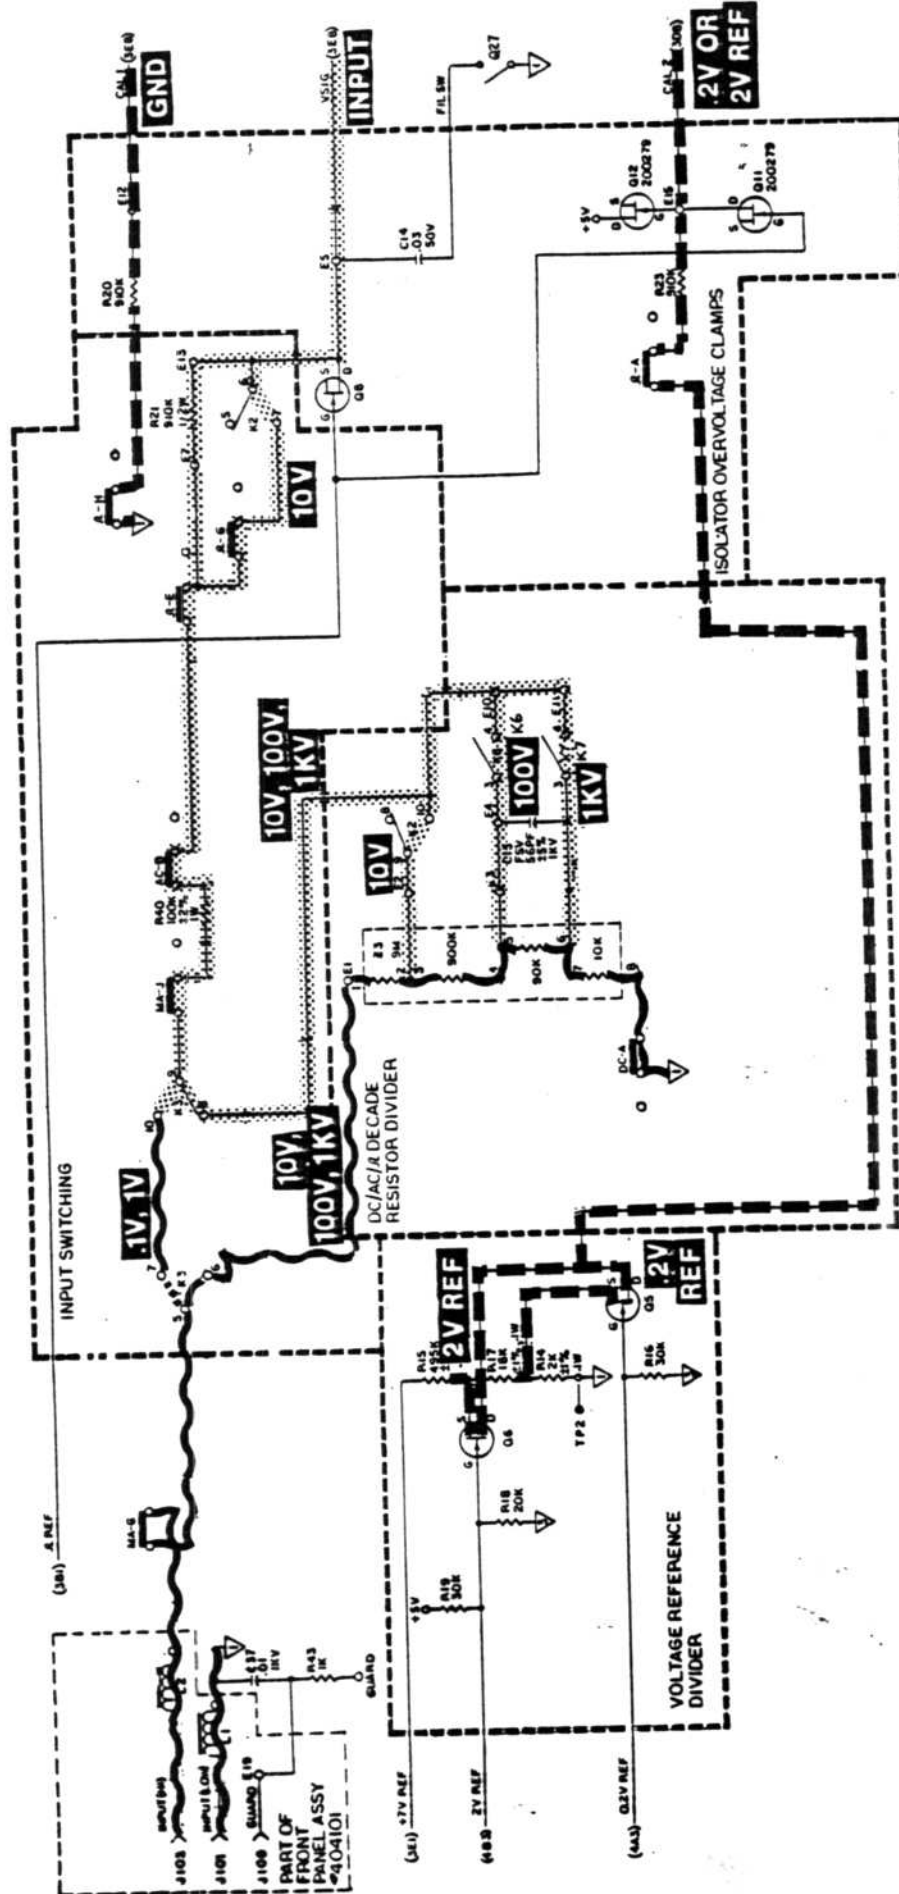
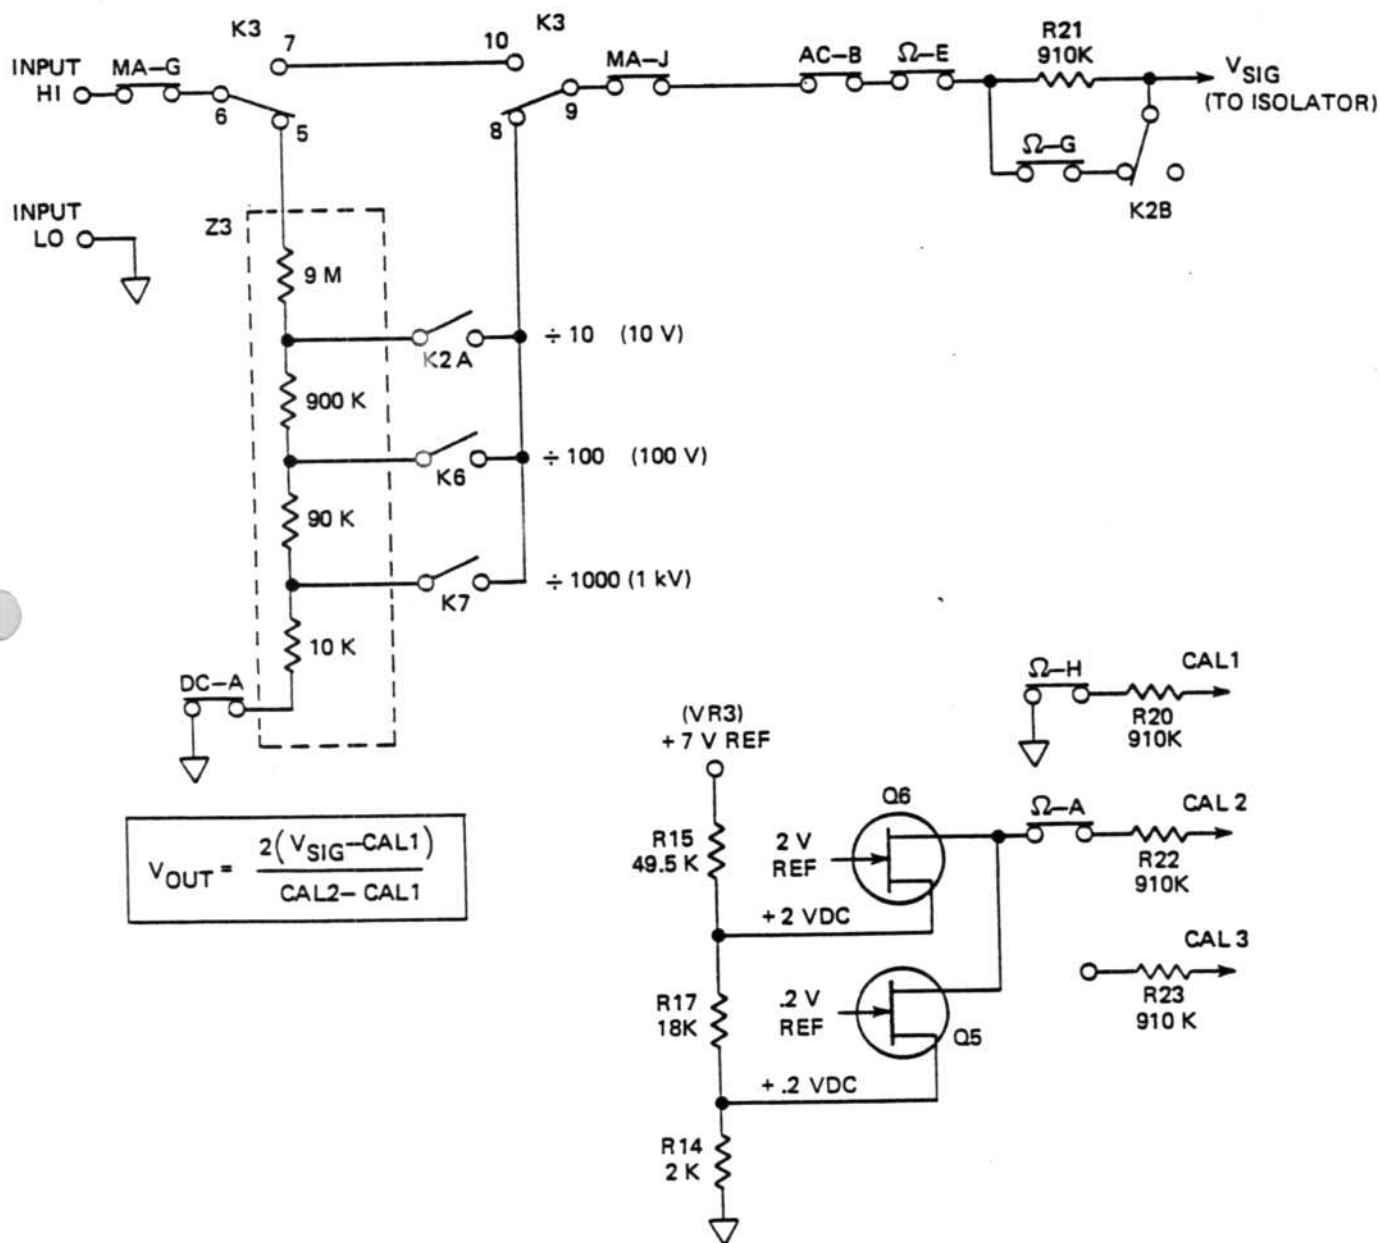

Figure 4.4 - 5001 VDC Input Path with Schematic
Figure 4.5 - 5001 VDC Front-End Diagram
4.4.2.2 Refer to Figure 4.4 which shows a simplified VDC input signal path with schematic and Figure 4.5 which provides a VDC front-end diagram. When the DC Volts function is selected, the signal applied to the HI and LO INPUT terminals is routed through Switch MA-G to relay K3.